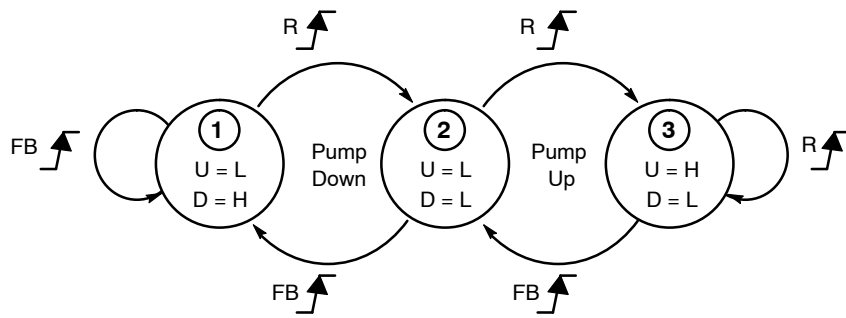

Figure 2. Phase Detector Logic Model
The MC100EP140 is a three state phase frequency-detector intended for phase-locked loop applications which require a minimum amount of phase and frequency difference at lock. Since the part is designed with fully differential internal gates, the noise is reduced throughout the circuit, especially at high speeds. The basic operation of a Phase/Frequency Detector (PFD) is to “compare” an incoming signal (feedback) to a set reference signal. When the Reference (R) and Feedback (FB) inputs are unequal in frequency and/or phase, the differential UP (U) and DOWN (D) outputs will provide pulse streams which, when subtracted and integrated, provide an error voltage for control of a VCO. Detector states of operation are shown in the Figure 2 and the State Table.